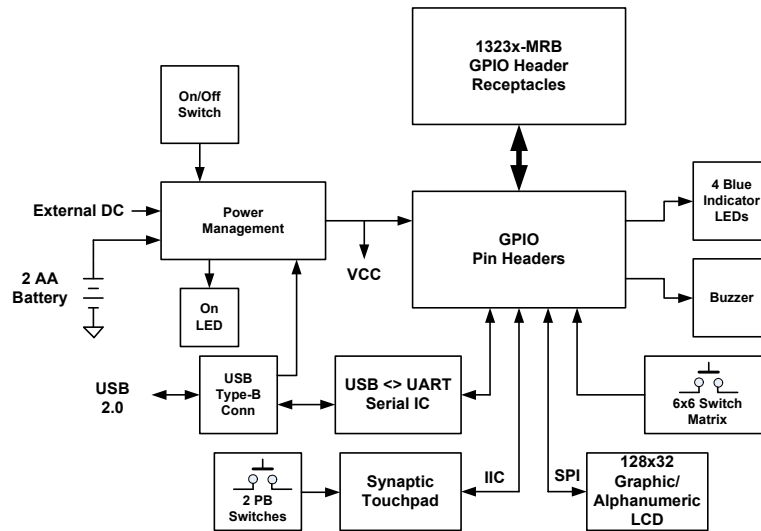

Figure 4-2. 1323x-RCM Block Diagram
The 1323x-RCM is a host motherboard for the 1323x-MRB. The two-board combination provides a powerful evaluation and development platform for the MC13233. Figure 4-2 shows a simple block diagram. The 4-layer board provides a flexible power supply, 36 pushbutton matrix, 128x32 LCD, Touchpad sensor, 3-axis accelerometer, four indicator LEDs, buzzer, and a USB \leftrightarrow UART serial port.
- Figure 4-2 for the functional blocks